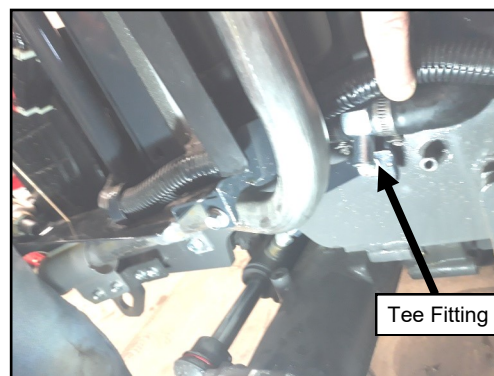

Figure 17.10 (Tee Fitting)
- 17.10 Attach the lower radiator hose to the other side of the tee fitting with the remaining large hose clamp. Inspect the lower radiator hose to confirm it is not pushed up against any sharp edges and further trim to length if necessary. Orient the Tee fitting per figure 17.10 and tighten the clamps. Reinstall removable wire ties and heat shield.